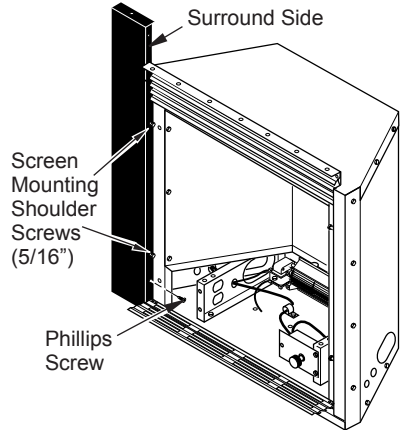

Figure 6 - Attaching Left Surround Side Panel
3. Align holes in left surround side panel with screen mounting screw holes. Replace 5/16" screen mounting shoulder screws removed in step 1 (see Figure 6). Do not tighten. Install Phillips screw in bottom (see Figure 6). Repeat for right side.